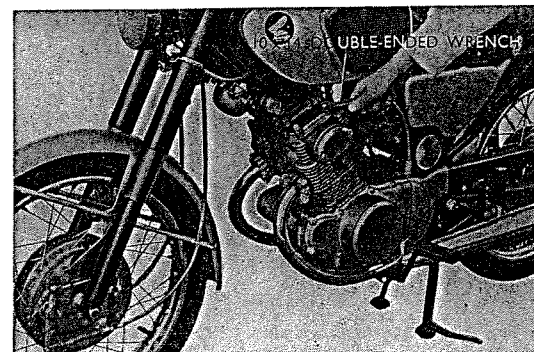

Fig. 3.72 Confirming oil circulation
- (a) Whether or not the oil pump is operating securely is confirmed by loosening the cap nuts holding the cylinder head cover at the right and left sides and rear. (If oil is visible, the condition is acceptable.) (Refer to Fig. 3.72)
- (1) Tightness of oil pump.
- (2) Pump gasket (broken).